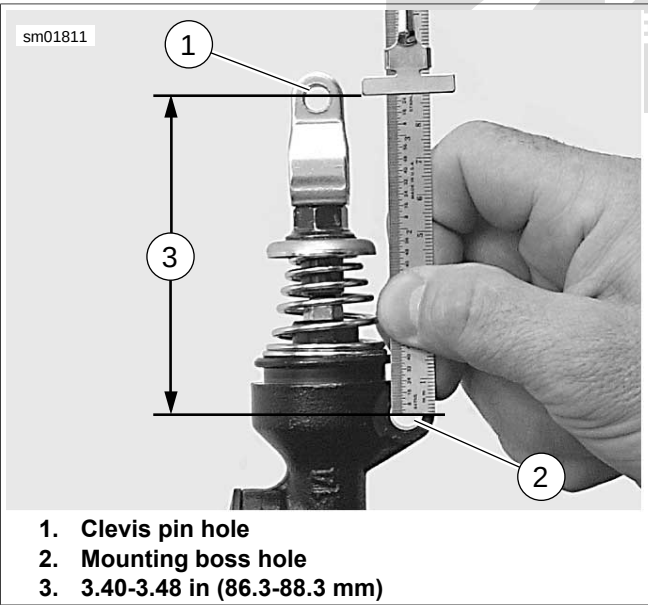

Figure 2-89. Adjusting Pushrod Length
14. See Figure 2-89. Measure from centerline of clevis pin hole (1) in yoke to centerline of master cylinder mounting boss hole (2) closest to yoke.